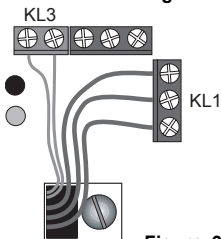

Figure 9
- Connect the connection cable for the bolt switching contact with the 'KL1' (A) terminal. See figure 9.